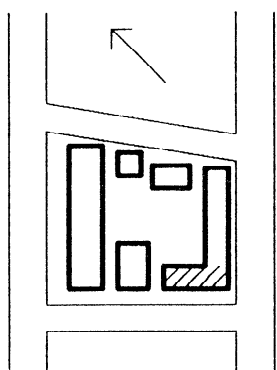

Figure 3
- schematic site plan with area, arrow indicating the north, building, part of building, etc. marked (see figure 3);